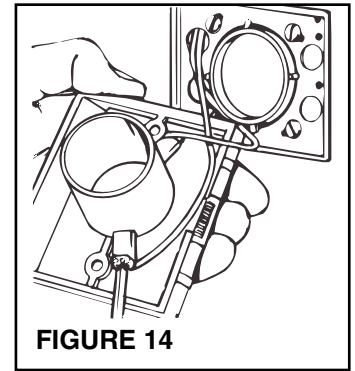

FIGURE 14
4. **Refer to Figure 14.** Connect 2-conductor low voltage wire to terminal screws on back of wall inlet.